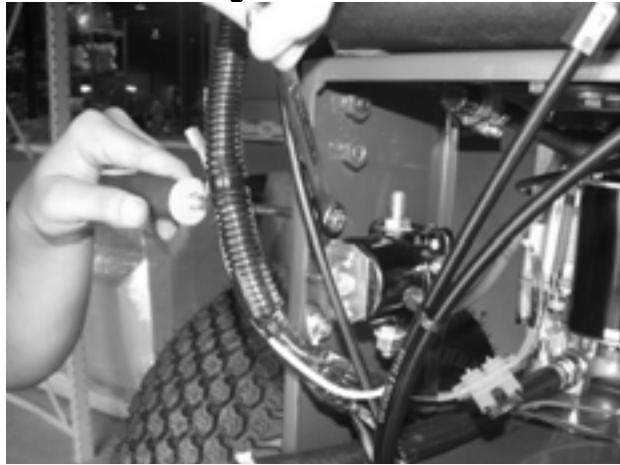

Figure 31
4. Using a Phillips screwdriver and 7/16" wrench, remove solenoid **Figure 31**.